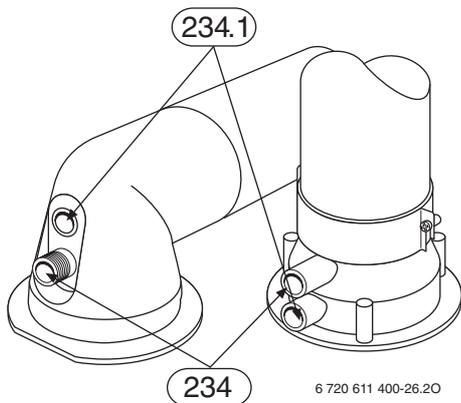

Fig. 50
- ▶ Remove sealing plug from combustion air testing point (234.1, Fig. 50).
- ▶ Remove sealing plug from flue gas testing point (234, fig. 50).